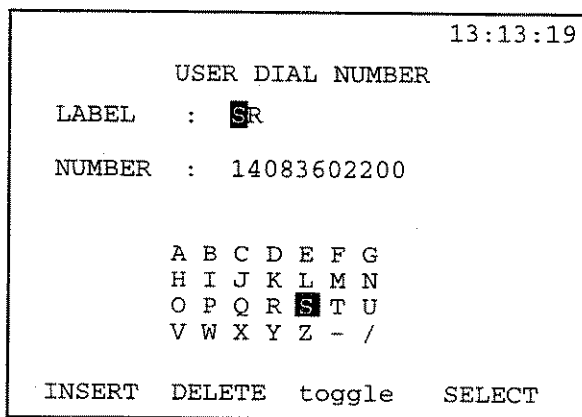

Figure 8.4.B User Dial Number screen
- 2) Enter the LABEL first. See Figure 8.4.B.